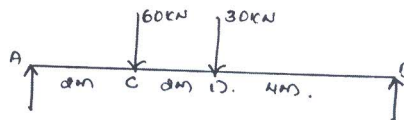

Fig.Q3(b)
b. A SSB spanning 8m carries concentrated loads of 60 kN and 30 kN at a distance of 2 m and 4 m from the left support. Determine the slopes at the ends and location and magnitude of the maximum deflection. Assume  $E = 200 \text{ GPa}$  and  $I = 20 \times 10^8 \text{ mm}^4$  (Macaulay's method). [Refer Fig.Q3(b)]